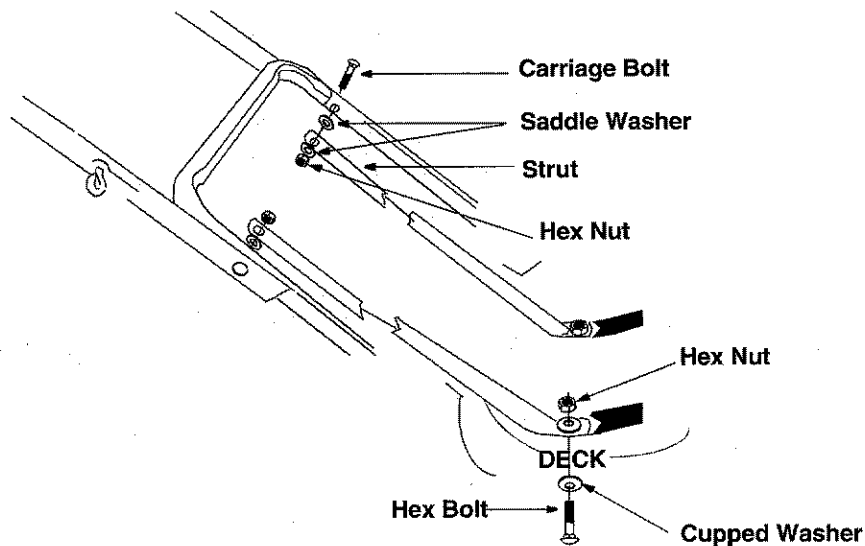

Figure 7
- Place the saddle washers over the carriage bolts on the handle aligning the curved side of the bolts against the contour of the handle. See Figure 7.
- Place struts over the carriage bolts. Secure loosely with lock washers and hex nuts. See Figure 7.
- Attach the other end of the struts as follows. Place one cupped washer over each hex bolt aligning the crowned side of the washer against the head of the bolt. Insert hex bolts up through the middle holes in deck beside the engine and then through the struts. Secure with cupped washers (cupped side against strut) and hex nuts. See Figure 7.